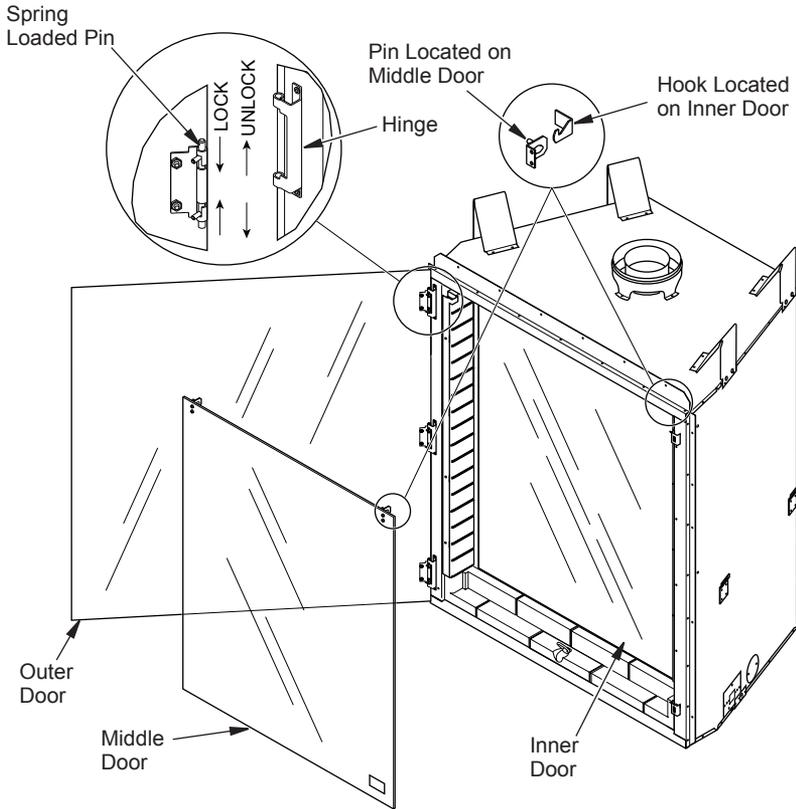

Figure 26 - Removing/Installing Middle Door
Middle door hangs on 2 hinges from top of inner glass door (see Figure 26, page 18).
2. Angle middle door so top goes into fireplace first. Hang middle door on brackets at top of inner door (see Figure 26, page 18).
2. There are three spring loaded pins on outer door. Set pins to the locked position (see Figure 26, page 18).
3. Position outer door so pins line up with mating hinges on fireplace. Holding door in place, release locks on spring loaded pins (see Figure 26, page 18).
2. Remove middle door by lifting from hinges (see Figure 26). Set aside to avoid scratches or damage.